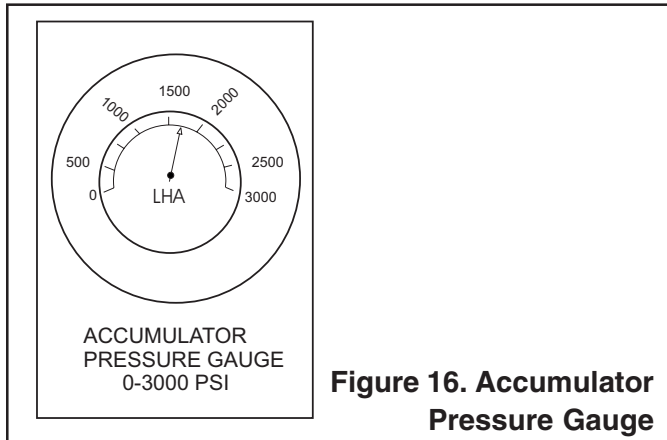

Figure 16. Accumulator Pressure Gauge
- B. The Accumulator Pressure Gauge (Figure 16) should read approximately 1750 pounds per square inch (psi).